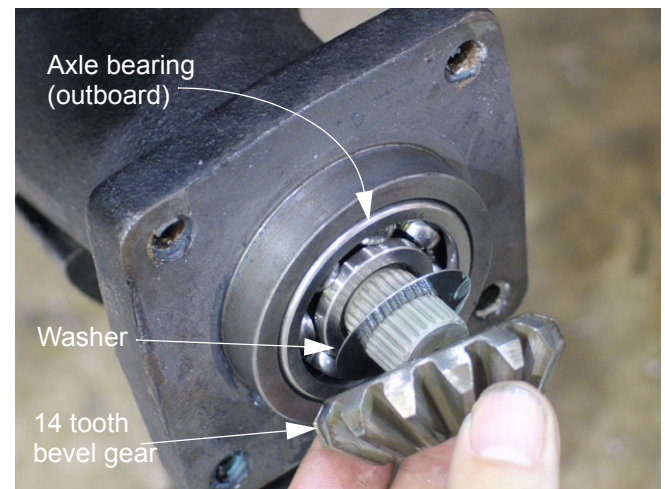

Figure 7.13
- 7.13. With the kingpin housing removed, access is gained to the bevel gear on the end of the axle shaft, and the bearing that supports the outer end of the axle shaft. See Figure 7.13.